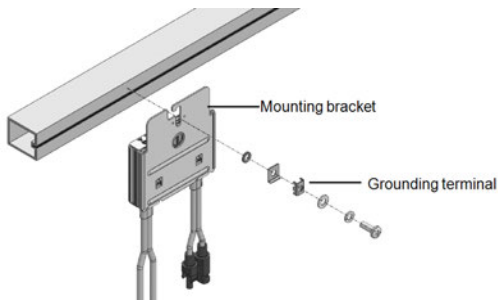

Figure 6: Power optimizer grounding terminal
- **For mounting on un-grounded structures** (such as a wooden structure): If the star washer or the plate cannot be used, use the SolarEdge grounding lug (purchased separately) with an equipment-grounding conductor according to the supplied instructions. The grounding terminal accepts a wire size of 6-14 AWG, and must be sized for equipment grounding per NEC 250.122 requirements. Tighten the screws connecting the power optimizer to the frame and the grounding terminal screw. Apply torque of 9.5 N*m / 7 lb*ft. See Figure 6